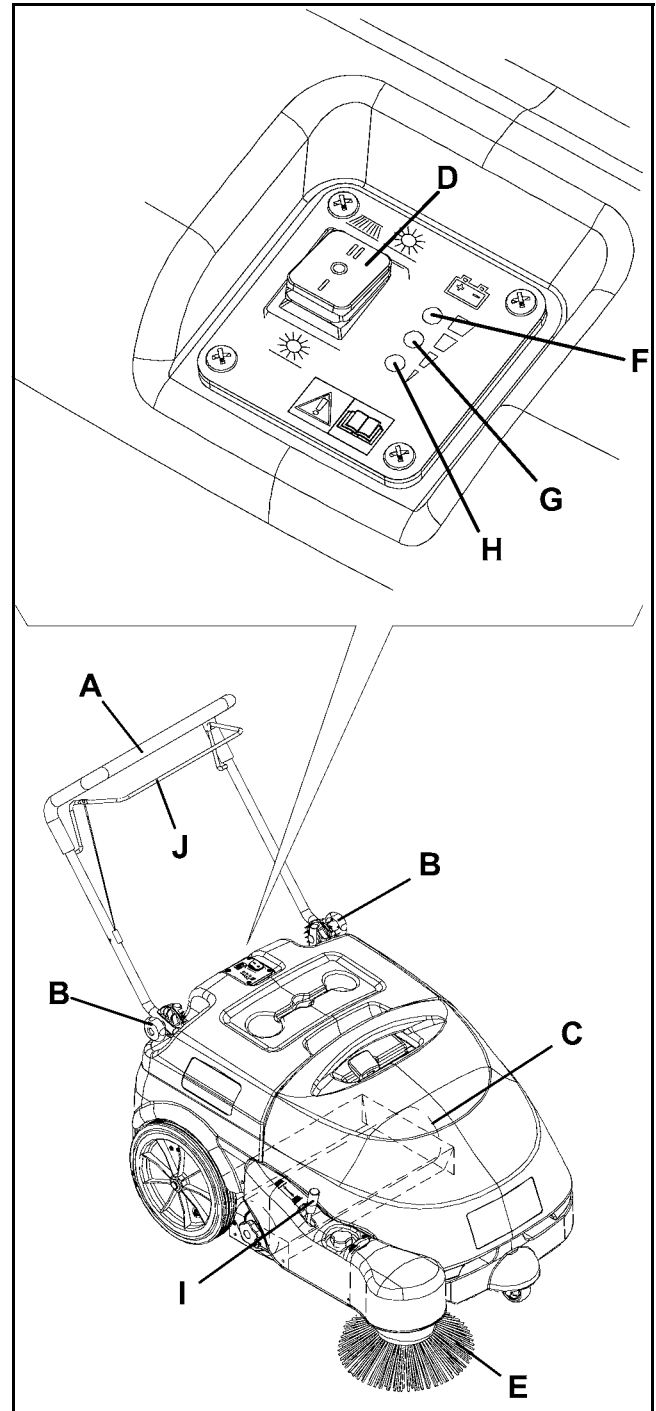

Figure 3
1. Adjust the handlebar (A, Fig. 3) to reach a comfortable position, by loosening the knobs (B). When the adjustment is completed, tighten the knobs.
2. To use the main broom (C, Fig. 3) only, turn the main switch (D) to "I".
3. Lower the main broom (E, Fig. 3) by disengaging the lever (I) and by pushing it forward.